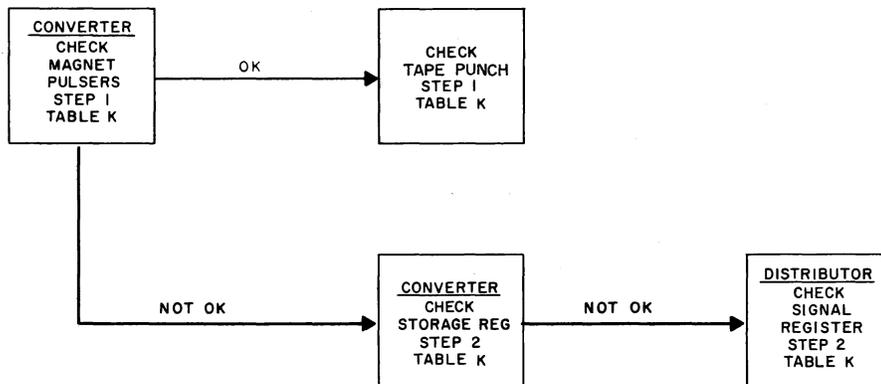

Figure 3. Tape Receiver - Trouble Shooting Flow Chart
- Figure 3, Tape Receiver - Troubleshooting Flow Chart